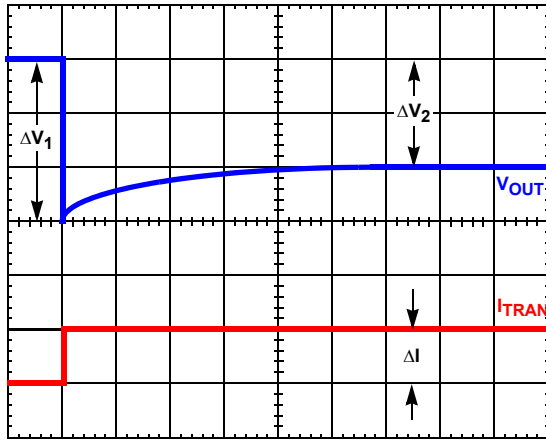

FIGURE 18. TIME CONSTANT MISMATCH BEHAVIOR
Due to errors in the inductance or DCR it may be necessary to adjust the value of  $R_{COMP}$  to match the time constants correctly. The effects of time constant mismatch can be seen in the form of droop overshoot or undershoot during the initial load transient spike, as shown in Figure 18. Follow the steps below to ensure the R-C and inductor  $L/DCR$  time constants are matched accurately.
2. Record  $\Delta V_1$  and  $\Delta V_2$  as shown in Figure 18.